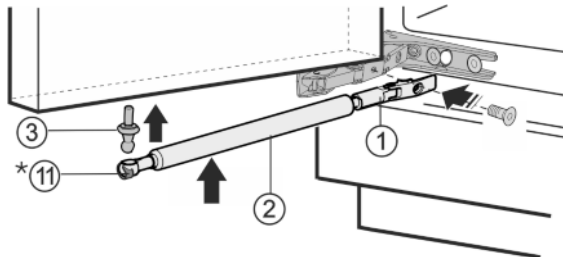

Fig. 6
- ▶ Screw the ball stud *Fig. 6 (3)* firmly into the new fastening hole (**with 4 Nm**) (Torx® 25).
- ▶ Push tension spring *Fig. 6 (11)* inwards again.\*
- ▶ Screw on the bracket *Fig. 6 (1)* **tightly (3 Nm)** anschrauben.
- ▶ Attach soft stop mechanism *Fig. 6 (2)* to ball stud.